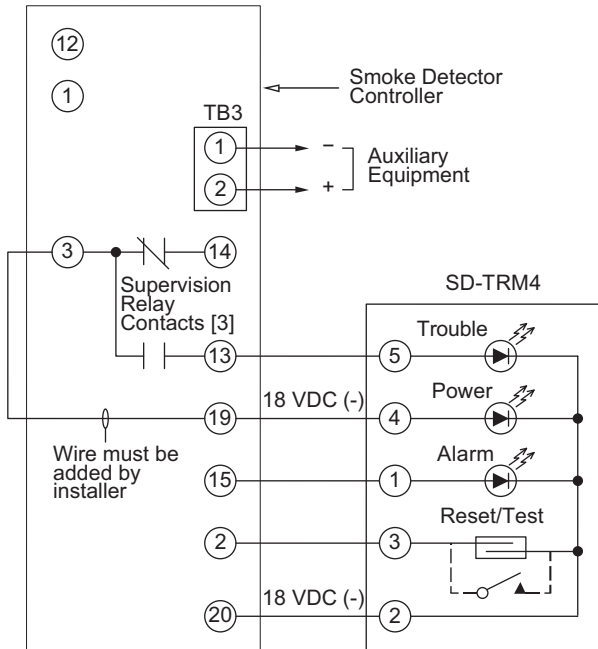

Fig. 53 — Remote Test/Reset Station Connections
The test/reset station dirty sensor test checks the test/reset station's ability to initiate a sensor dirty test and indicate the results. It must be wired to the controller as shown in Fig. 53 and configured to operate the controller's supervision relay. For more information, see "Dirty Sensor Test" on page 38.
1. Verify that the remote test/station is wired as shown in Fig. 53. Repair or replace loose or missing wiring.